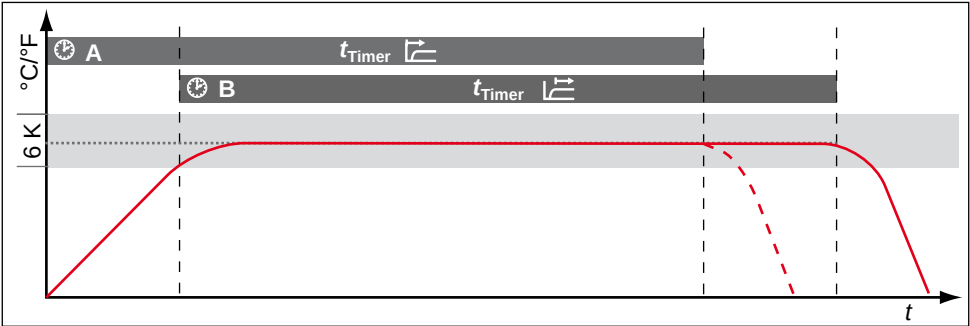

Fig. 29 Timer Mode
Here, you can choose whether the digital backwards counter with target time setting (see page 28) should run setpoint-dependent or not. This determines whether the timer should not start until a tolerance band of $\pm 3\text{ K}$ around the set temperature is reached (Fig. 29, B) or if it should start right after activation (A).